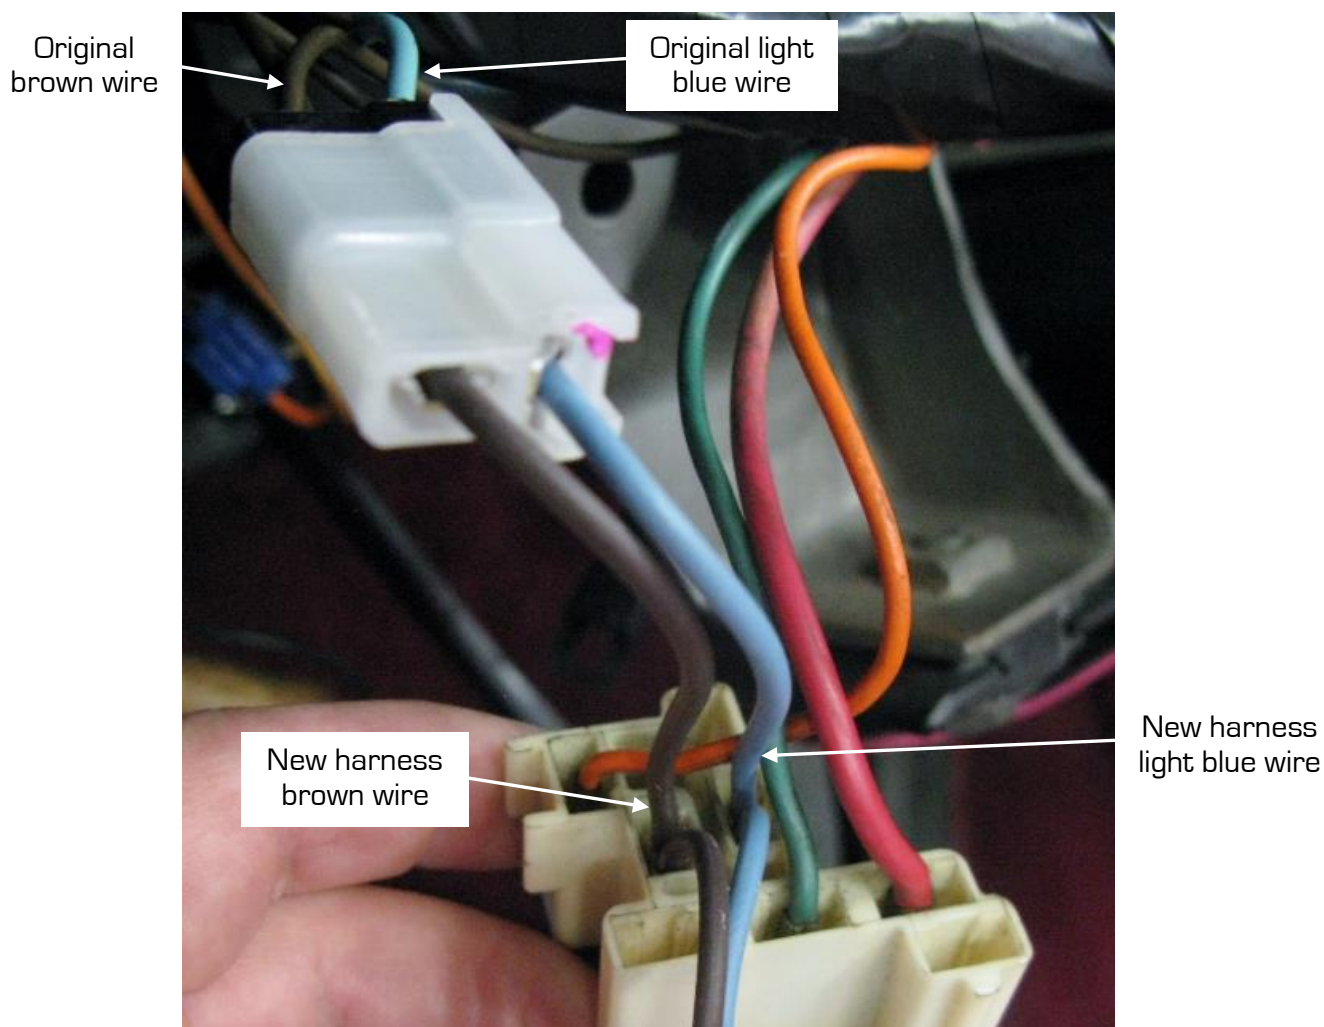

Figure 37 - Plug-In Headlight Connector (Mid C3)
34. Plug this connector into the clear two-terminal connector on the new harness (Figure 37). Make sure that the wire colors correspond with each other (light blue to light blue or yellow, brown to brown).